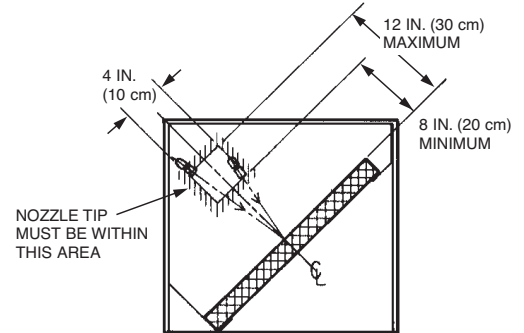

FIGURE 8
- **Option 2:** The 1W nozzle must be placed perpendicular, 8-12 in. (20-30 cm) from the face of the filter and angled to the center of the filter. The nozzle tip must be within 2 in. (5 cm) from the perpendicular center line of the filter. See Figure 8.